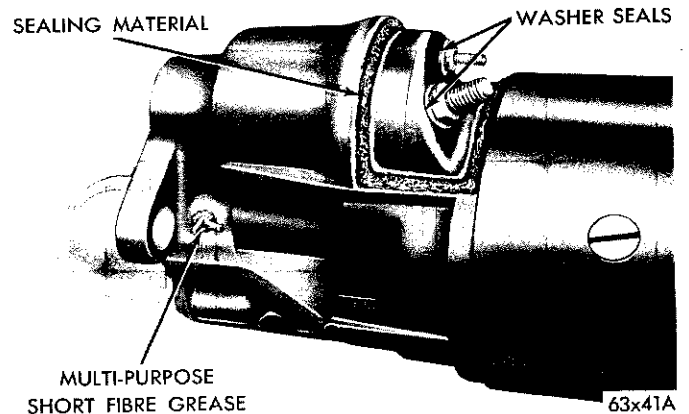

Fig. 26—Sealing the Brush Holder Plate
(23) Clean the area at the joint between the brush holder plate to the field frame and gear housing mating joint. Apply a bead of brush plate sealer Part NO. 2421847 around the four sides of the joint (Fig. 26).